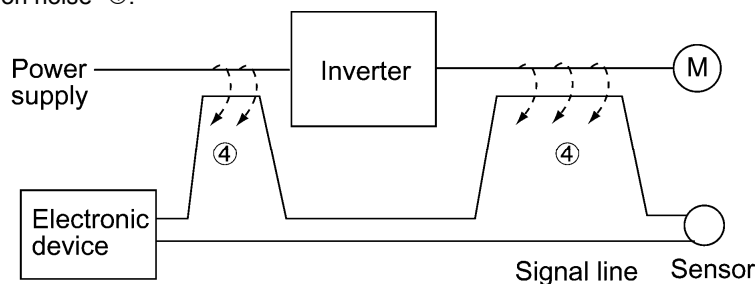
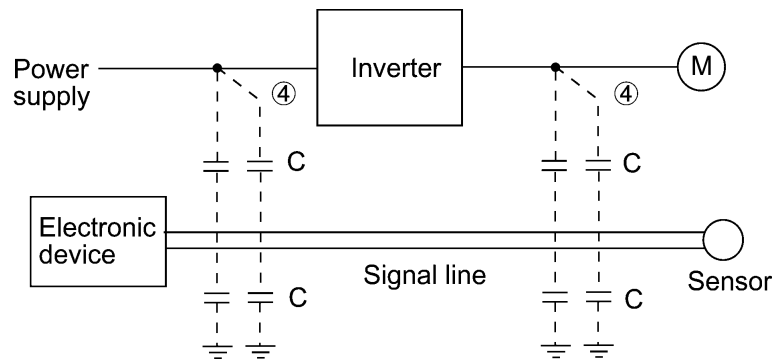

Figure A-4 Electromagnetic Induced Noise
Figure A-5 Electrostatic Induced Noise
(2) Induction Noise
When wires or signal lines of peripheral devices are brought close to the wires on the input and output sides of the inverter through which noise current is flowing, noise will be induced into those wires and signal lines of the devices by electromagnetic induction (Figure A-4) or electrostatic induction (Figure A-5). This is called "induction noise" ④.